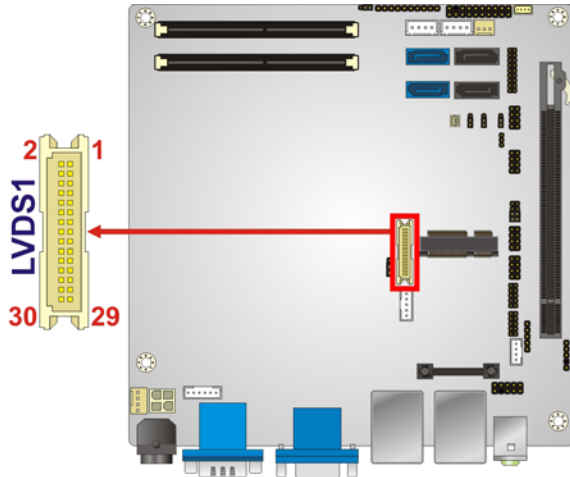

Figure 3-12: LVDS LCD Connector Pinout Location
- CN Location:** See **Figure 3-12**